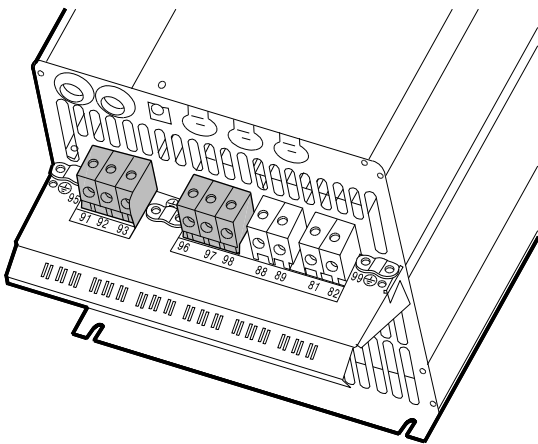

Fig. 19 Mains and motor connection, C3
1. Connect the earth conductor to terminal 95 (PE). See figs 19 and 20.
1. Connect the earth conductor to terminal 99 (PE). See figs 19 and 20.
2. Connect the motor conductors to the terminals 96 (U), 97 (V), 98 (W).